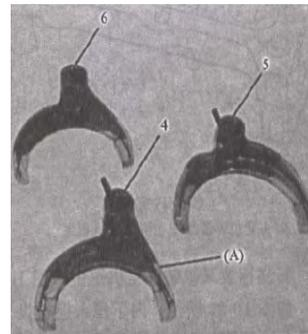

Fig 10-78
High speed gear shift fork is distinguished from reverse gear shift fork by the part indicated as (A) in FIG.10-78 for being straight..